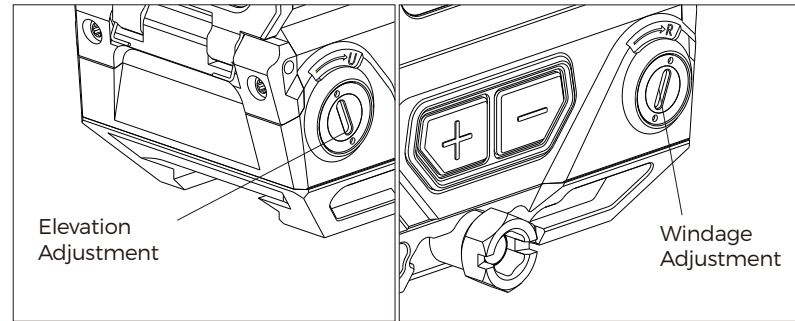

Fig 20
- 3) The Elevation adjustment is located on the right side of the housing and the windage adjustment is located on the left side of the housing. Adjustments can be made using the included tools. (See Figure 20)